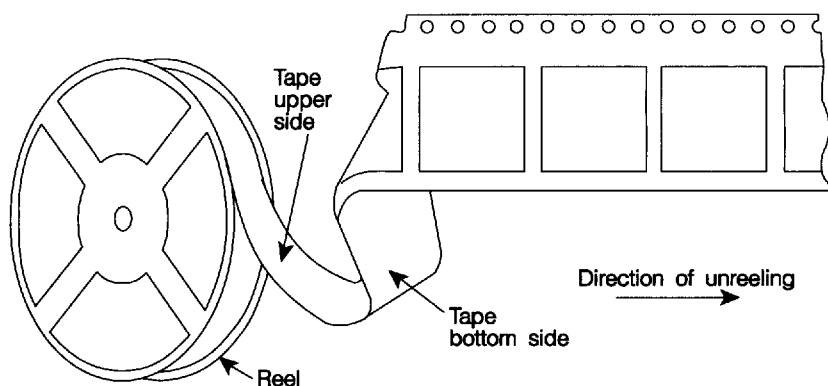

Fig.2 Tape Top and Bottom Orientation
- 4.2 The mounting side of the component shall be oriented to the bottom side of the tape (See Figure 2).